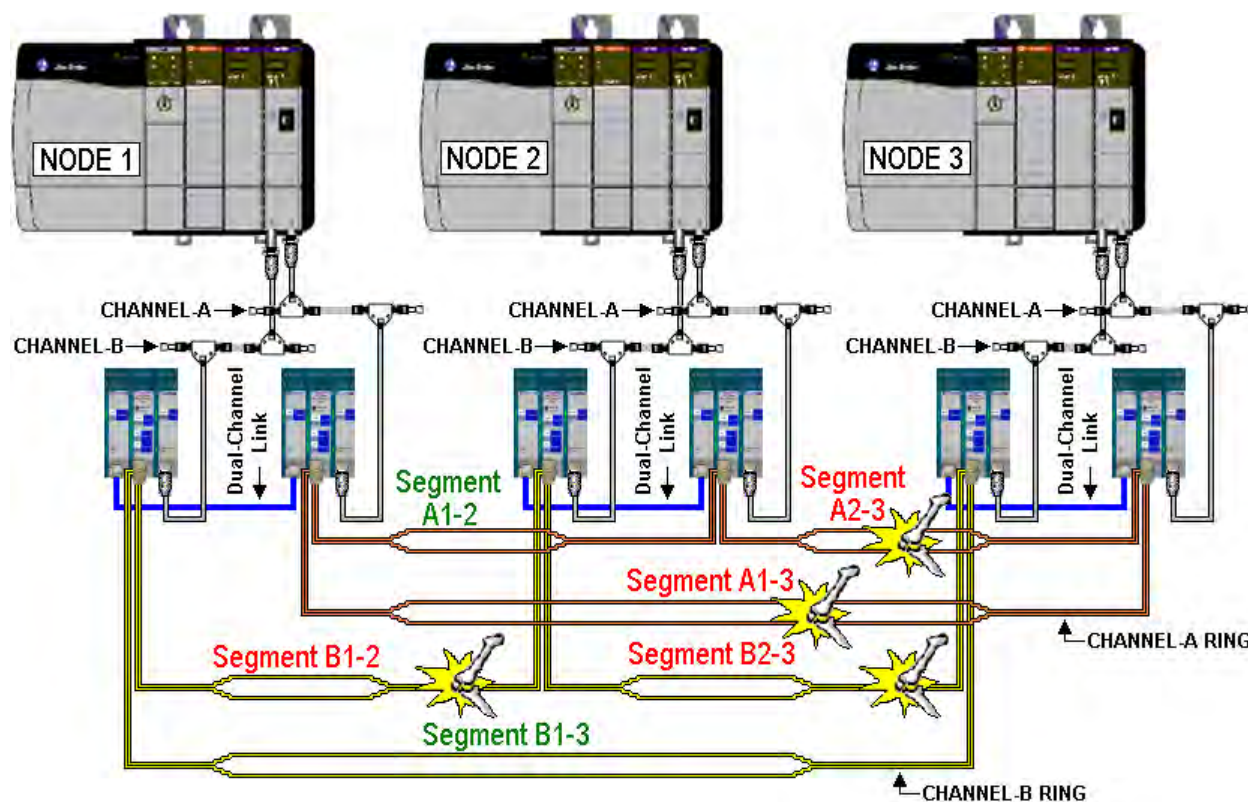

Figure 3-7
Dual channel redundancy is the most effective way to protect the integrity of your ControlNet system. Using the EOTec 2C32, dual-redundant rings can be created on any ControlNet systems where single-channel ControlNet Bridges (CNBRs) are used. A Dual Self-Healing ring can withstand multiple fiber breaks as shown figure 3-7. Although fiber segments A2-3, A1-3, B1-2, and B2-3 are all broken, Node-3 can still communicate with the other two nodes over fiber segment B1-3. A chain of communication still remains between all three nodes (segment A1-2 and B1-3).
- A dual-redundant configuration increases network reliability by providing two alternative paths for message flow in the event of a network segment or power failure. When a communication segment break occurs, messages are automatically captured from an alternative communication path as shown in figure 3-7.